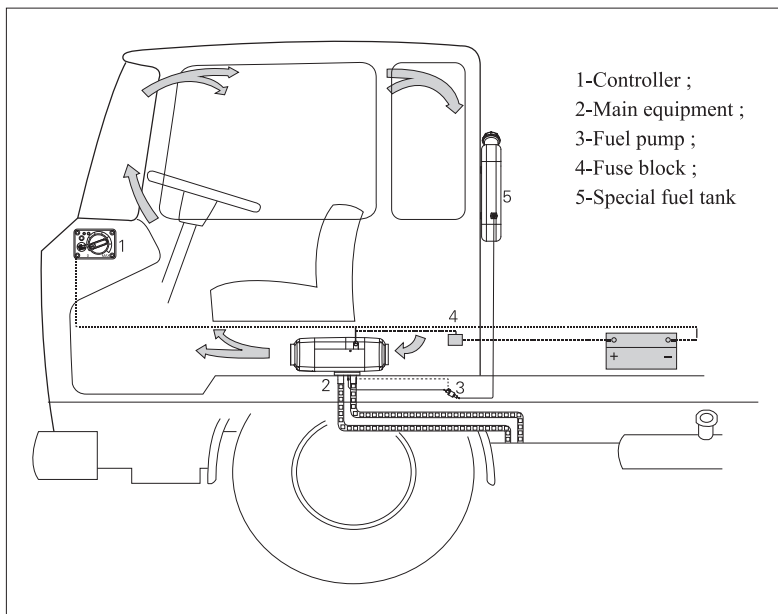
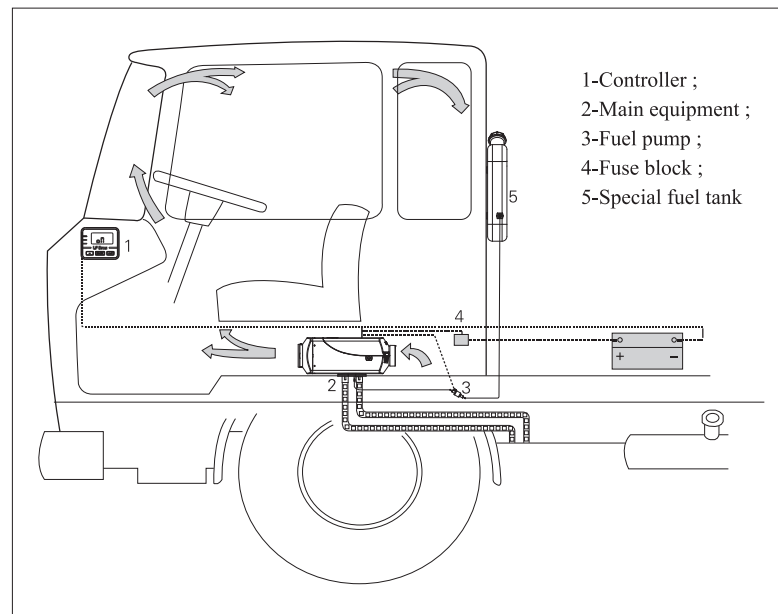

Fig. 1 (W)
Fig. 2 (E)
The main equipment of air parking heater (hereinafter referred to as the heater) is a small fuel furnace controlled by a single-chip microprocessor. Its furnace body (that's the heat exchanger) is located in the hood-shape case, which serves as an independent air passage. Cold air is sucked into the air passage by the heat supplying fan and blown out when it becomes hot, so as to form another heating system that is to the original heating system of the vehicles. In this way, heat can be supplied by the heater to driver's cab and passengers' compartment no matter the engine is working or not. The schematic diagram is shown in Fig. 1 (W) and Fig. 2 (E). The heater is fully automatically controlled, and it has many advantages, such as compact structure, easy installation, energy saving, environmental protection, safety and reliability, and simple maintenance.